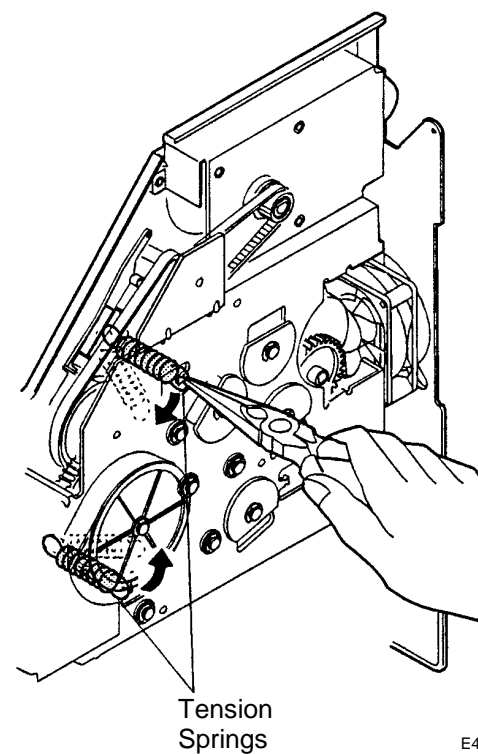

Figure 2. Removing the Springs
4. (Figure 2): Remove the Tension springs.